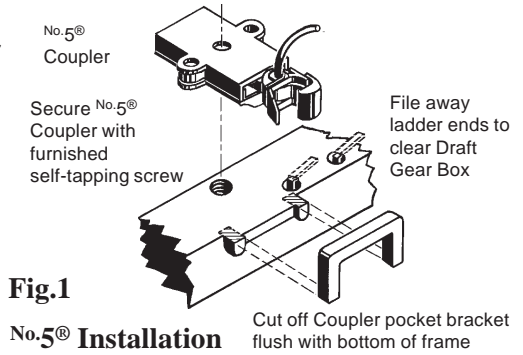

Fig.1
1. Cut off coupler pocket bracket flush with bottom of tender frame. See Fig.1. To avoid interference with Draft Gear box, trim protruding ladder ends.